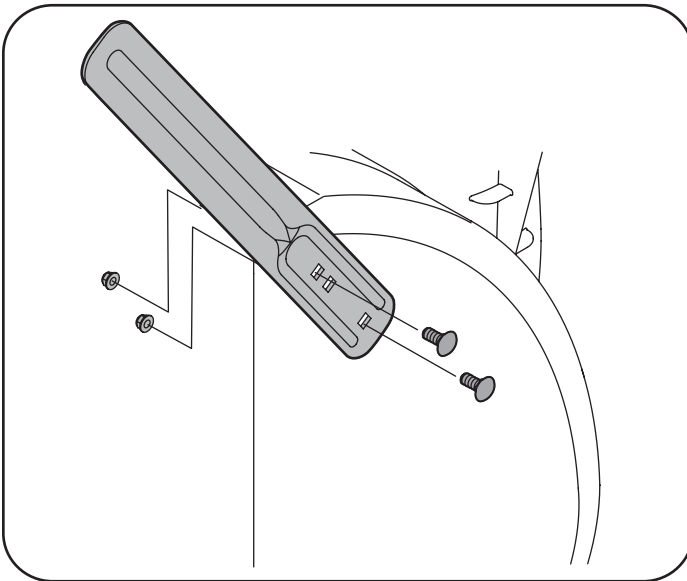

Figure 14
- Reposition drift cutters so they face forward as shown in Figure 14. Secure with hardware previously removed.